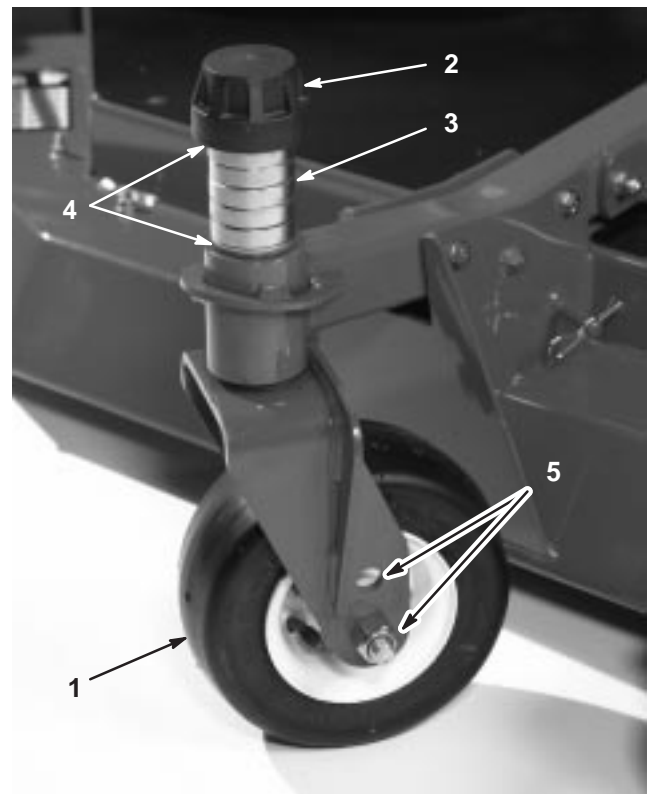

Figure 10
- Remove the tensioning cap from the spindle shaft (Fig. 10) and slide the spindle out of the castor arm. Put the 2 shims (1/8 inch) onto the spindle shaft as they were originally installed. These shims are required to achieve a level across the entire width of the cutting units. Slide the appropriate number of 1/2 inch spacers (refer to the chart below) onto the spindle shaft to get the desired height-of-cut; then slide the washer onto the shaft.